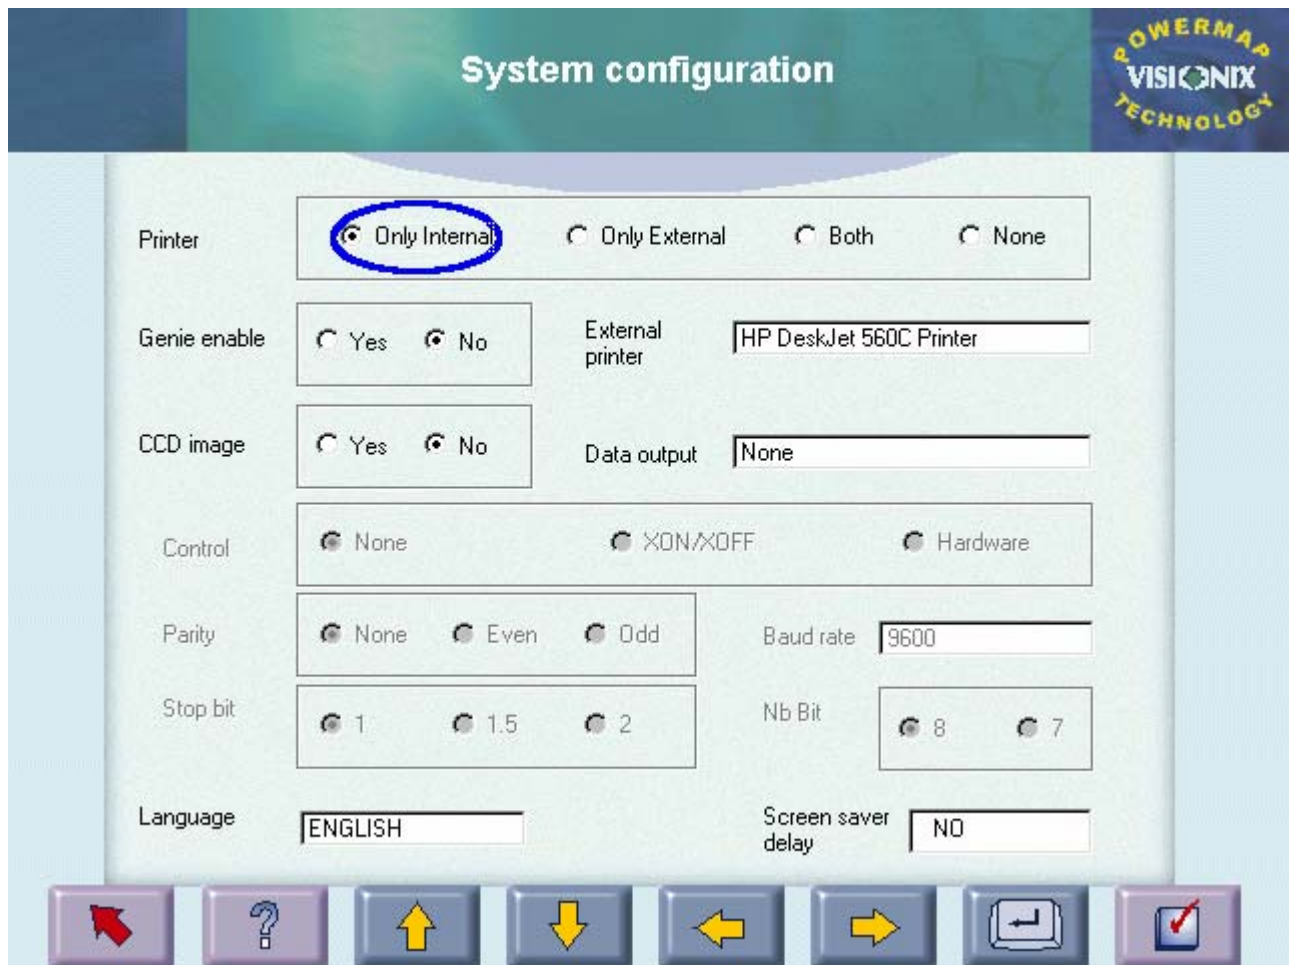

Figure 20
3. Press the **General Setup** button  ; the **Setup** dialog box is displayed (see Figure 20).